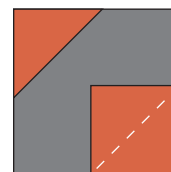
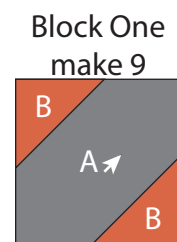

Fig. 4
Fig. 5
2. Follow Figure 4 for the seam direction to add a 5" Fabric B square to the lower right corner of the 8 ½" Fabric A square to make (1) 8 ½" Block One square (Fig. 5).